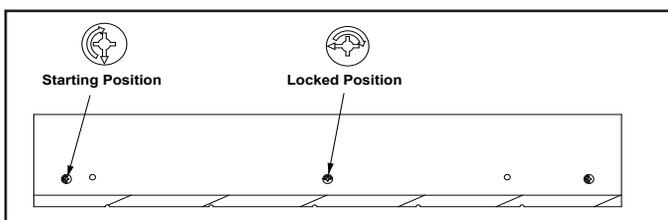

Figure 7
- With parts “C” and “D” installed on the Cam Pins, use a Phillips screwdriver to gently rotate the Cam Lock Fasteners 1/4 turn clockwise. Do not over-tighten or over rotate, note the arrow orientation in Figure 7.